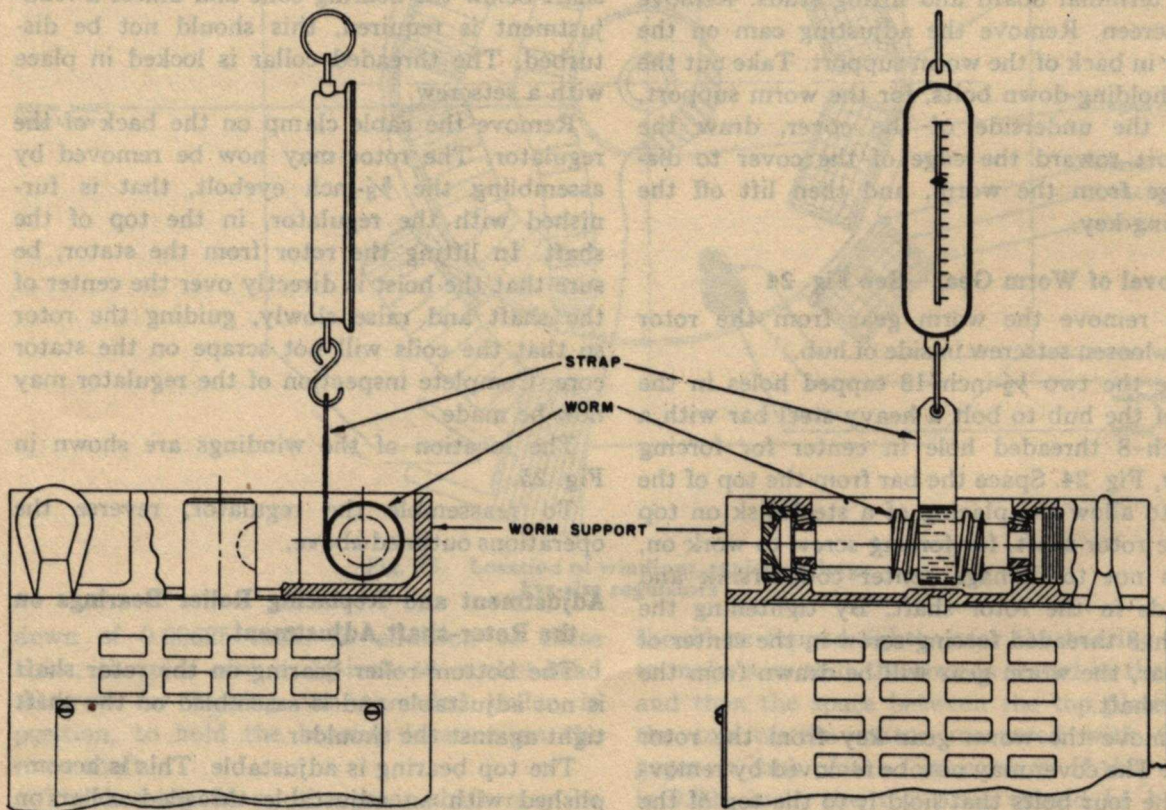

Fig. 23. Method used to preload worm bearings, typical of small kva-size regulators
**Adjustment of Worm Bearings—See Fig. 23**